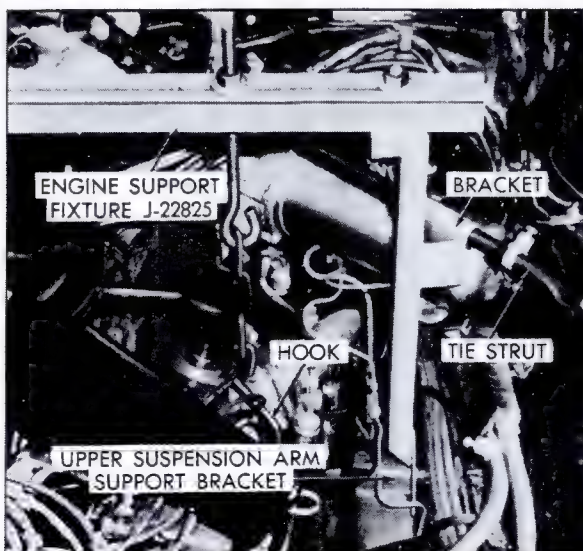

Fig. 7-149 Supporting Engine
15. Install Engine Support, J-22825, in engine with legs over upper suspension arm support brackets and brackets on tool over tie struts, Fig. 7-149. Install hooks under exhaust manifolds. Tighten bolts at legs and nuts at chains so that chains are in a true vertical position and put engine mounts under tension.